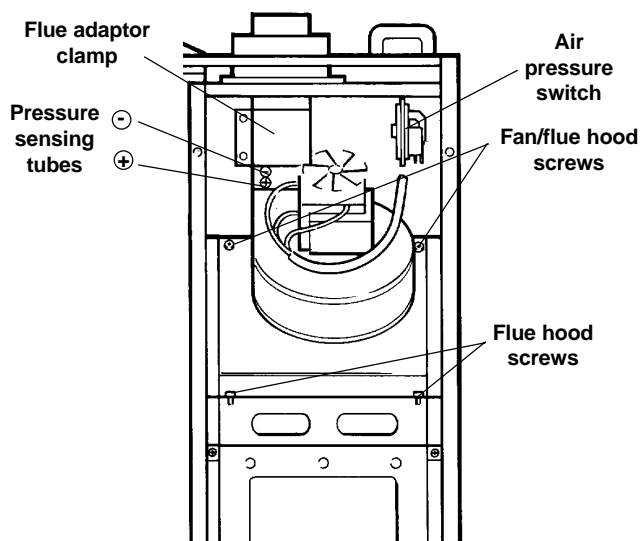

Fig. 23
## 8.7 FAN - Fig. 23
**Note:** Connect the fan wiring, blue to terminal 1 and brown to terminal 2. Ensure the pressure tubes are connected correctly, (red tube to +, clear tube to — marked on the fan outlet as shown in Fig. 23), and that the bottom of the combustion chamber cover is located correctly.
### **8.22 MAIN HEAT EXCHANGER - Refer to Fig. 23**